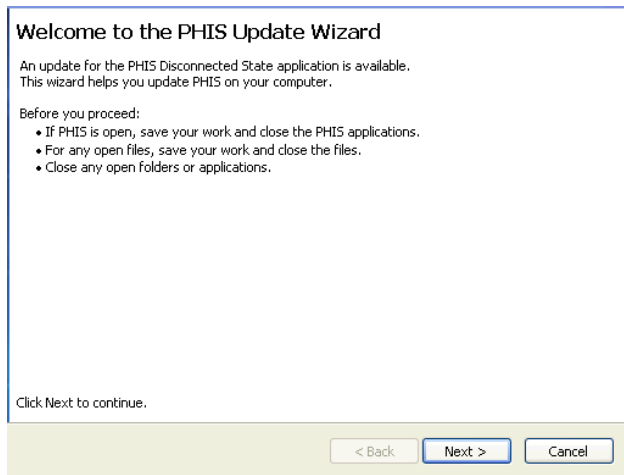

Figure 4: PHIS Update Wizard
7. When prompted to update your software, click **Next** and follow the instructions in the PHIS Update Wizard (see Figure 4: PHIS Update Wizard).